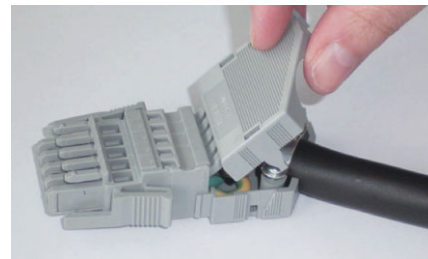

Fig. 74: Closing the strain relief housing
- Close the strain relief housing by pressing the top piece of the housing onto the bottom piece from above (fig. 74).